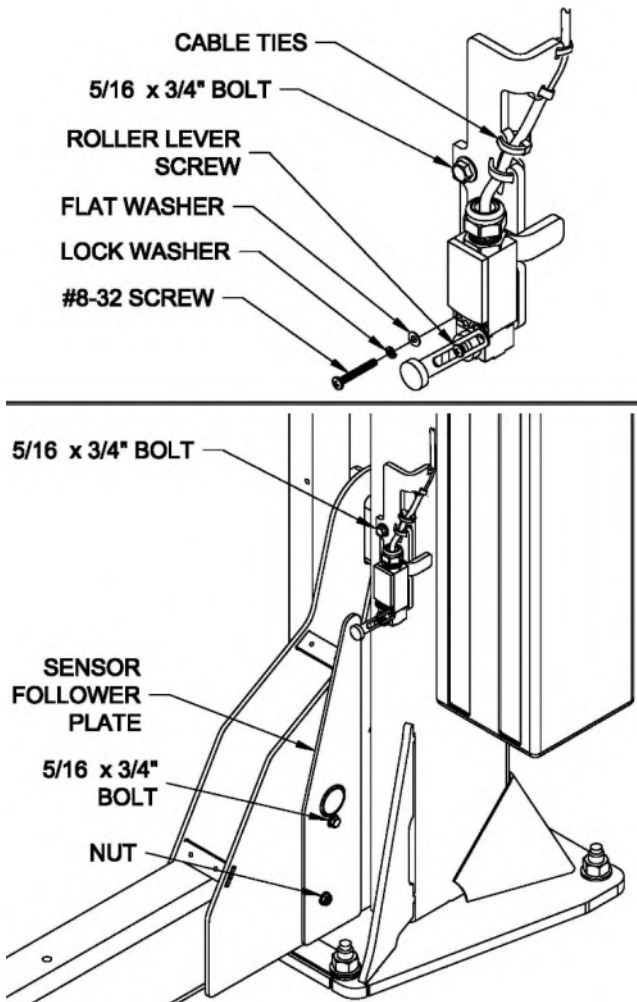

Fig 35 – Roller Lever Light Sensor
- 74) Remove the nut from front driver side cross beam. Mount the sensor follower plate to the crossbeam using the provide 5/16-18 x 3/4" bolt and the nut just removed. The 5/16 x 3/4" bolt can be found in the accessory box See **Fig 35**
- 75) Mount the Roller Lever Light Sensor to the sensor bracket using the two #8-32 screws, two lock washers, and flat washers. Secure the cable to the bracket using the provided cable ties as shown in top of **Fig 35**.
- 76) Loosen the roller lever center screw and mount the sensor bracket to the power column using the 5/16" bolt as shown in bottom of **Fig 35**.